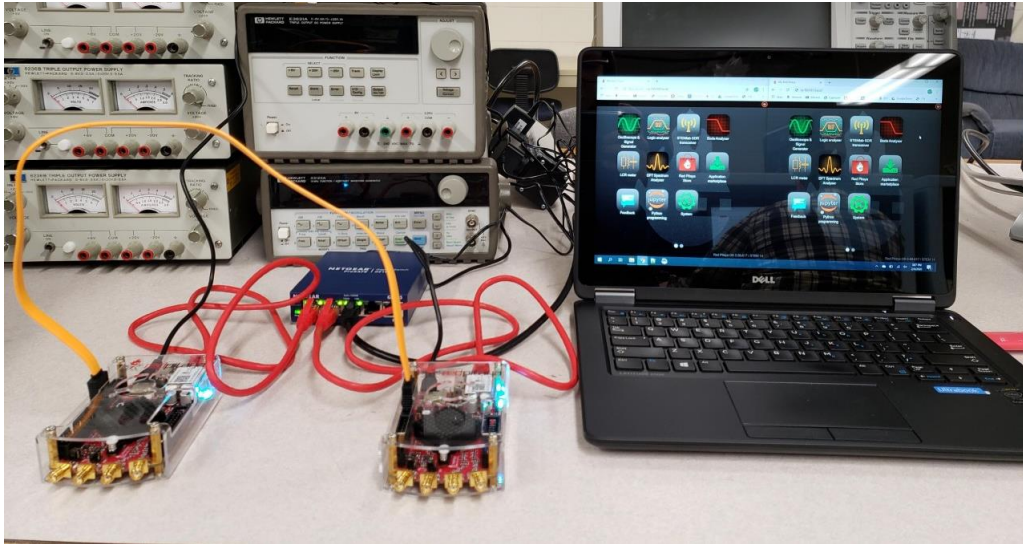

Figure 1: Multiple Boards Linked to Machine Set Up
9. If the setup was done correctly, your setup should mimic Figure 1 below: